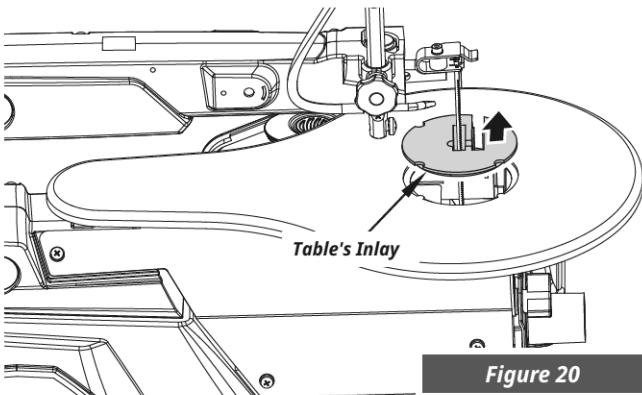

Figure 20
- Remove the Table Inlay. (See Figure 20)